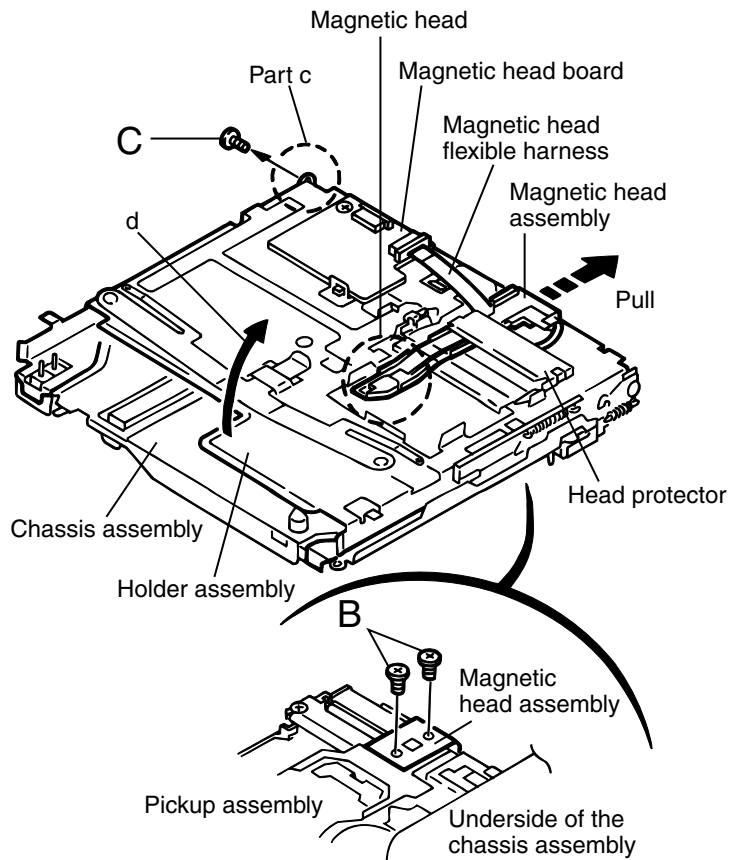

Fig. 3
(See Fig.3 and 6)**
1. Remove the screw C of the chassis assembly part c and lift the edge of the holder assembly in the direction of the arrow d (See Fig.3).